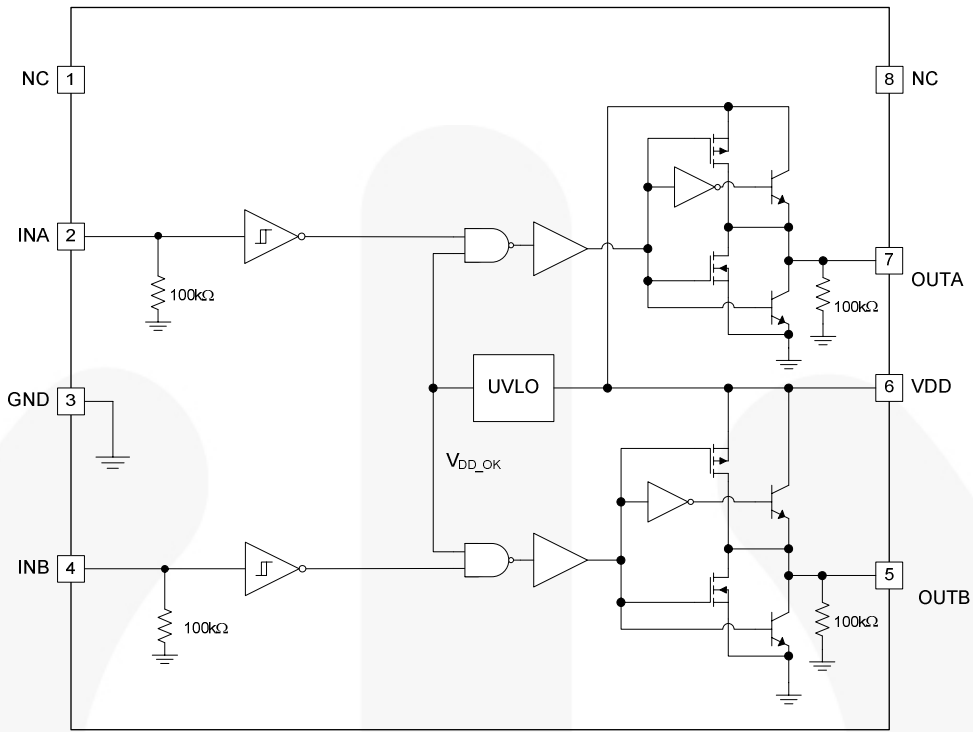
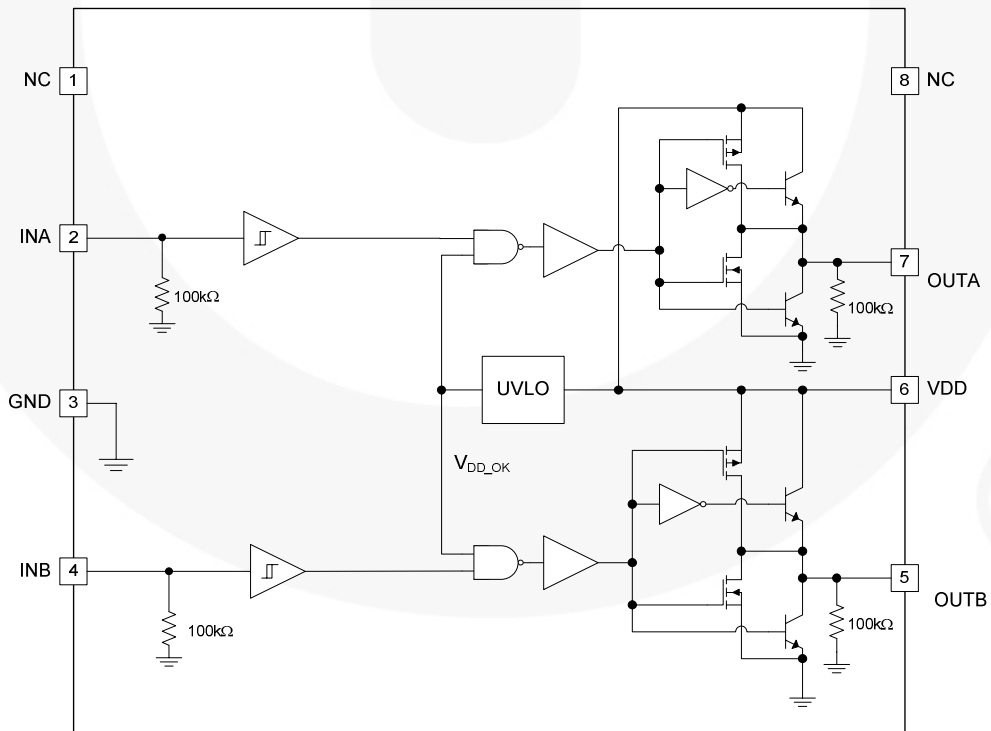

Figure 4. FAN3213 Block Diagram
Figure 5. FAN3214 Block Diagram
10. For any inverting inputs pulled LOW, non-inverting inputs pulled HIGH, or outputs driven HIGH; static  $I_{DD}$  increases by the current flowing through the corresponding pull-up/down resistor shown in Figure 4 and Figure 5.